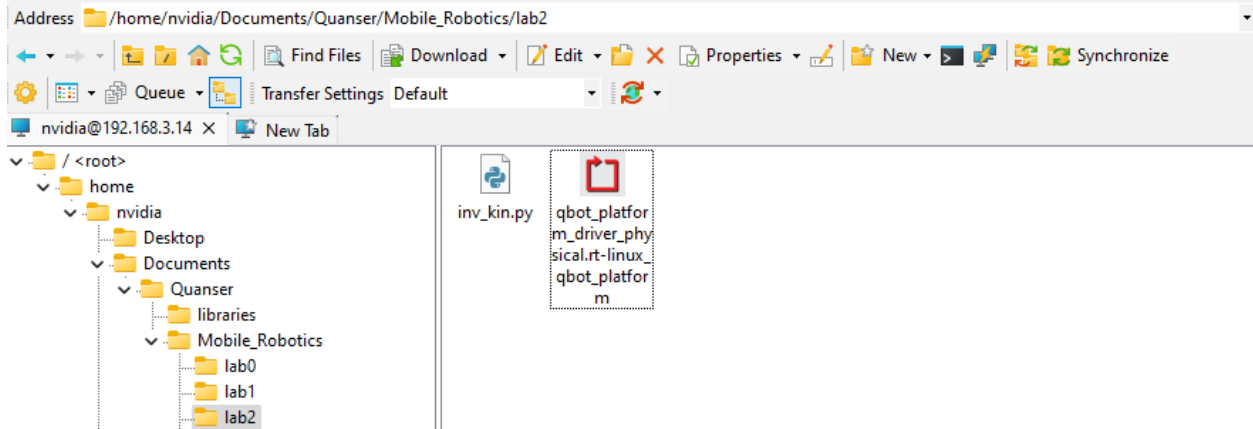

Figure 1. Correct directory for python script
- a. navigate to "`~\Documents\Quanser\Warehouse_Robotics`" and create a new folder "`Lab2`", as shown in Figure 1. Then copy the updated inv_kin.py to "`Lab2`". In addition, copy the qbot_platform_driver_physical.rt-linux_qbot_platform over. (You can just drag the files over).